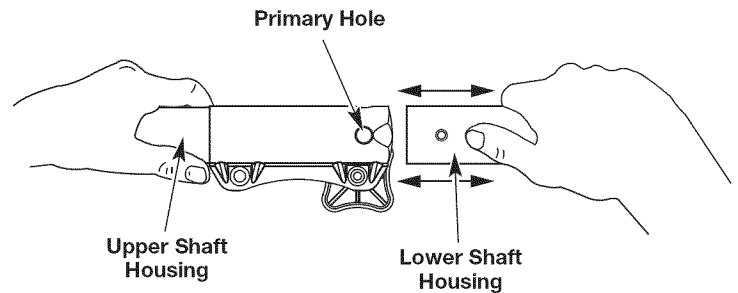

Fig. 10
2. While firmly holding the attachment, push it straight into the Convertible™ coupler until the release button snaps firmly into the primary hole (Fig. 10).
3. While firmly holding the upper shaft housing, pull the attachment straight out of the Convertible™ coupler (Fig. 10).